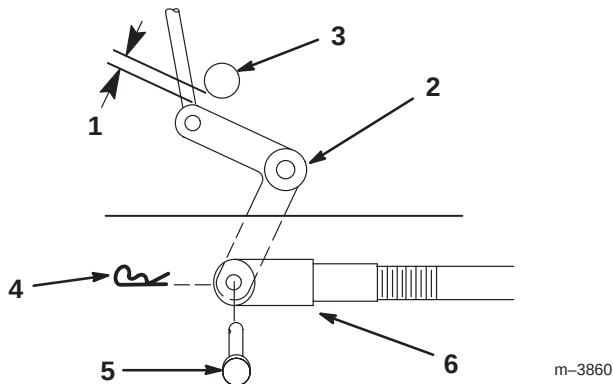
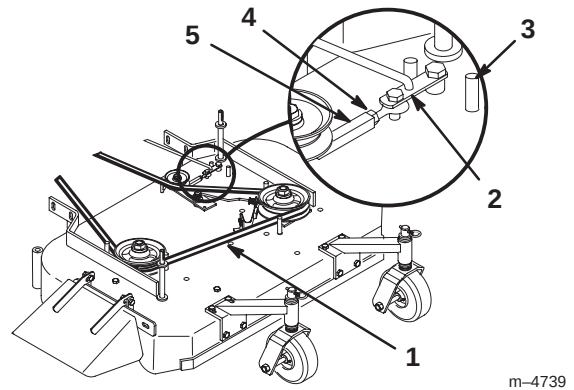

Figure 58
Figure 59
9. Check the clearance between the bell crank and the transmission output shaft (Fig. 58).
11. Rotate the clevis clockwise on the rod to increase the clearance; rotate it counterclockwise to decrease it (Fig. 58).
Note: If the assist arm does not contact the front stop on the mower deck (Fig. 59), adjust the clevis to bring the bell crank closer to the transmission output shaft (Fig. 58).
3. Loosen the locknut on the turnbuckle (Fig. 59).
4. Rotate the turnbuckle toward the rear of the mower to increase the tension on the belt. Rotate the turnbuckle toward the front of the mower to decrease the tension on the belt (Fig. 59).